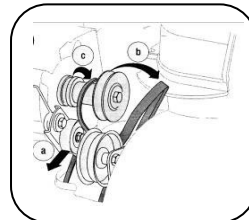

Figure 22
c. Lift the drive belt off engine pulley. See Figure 22.